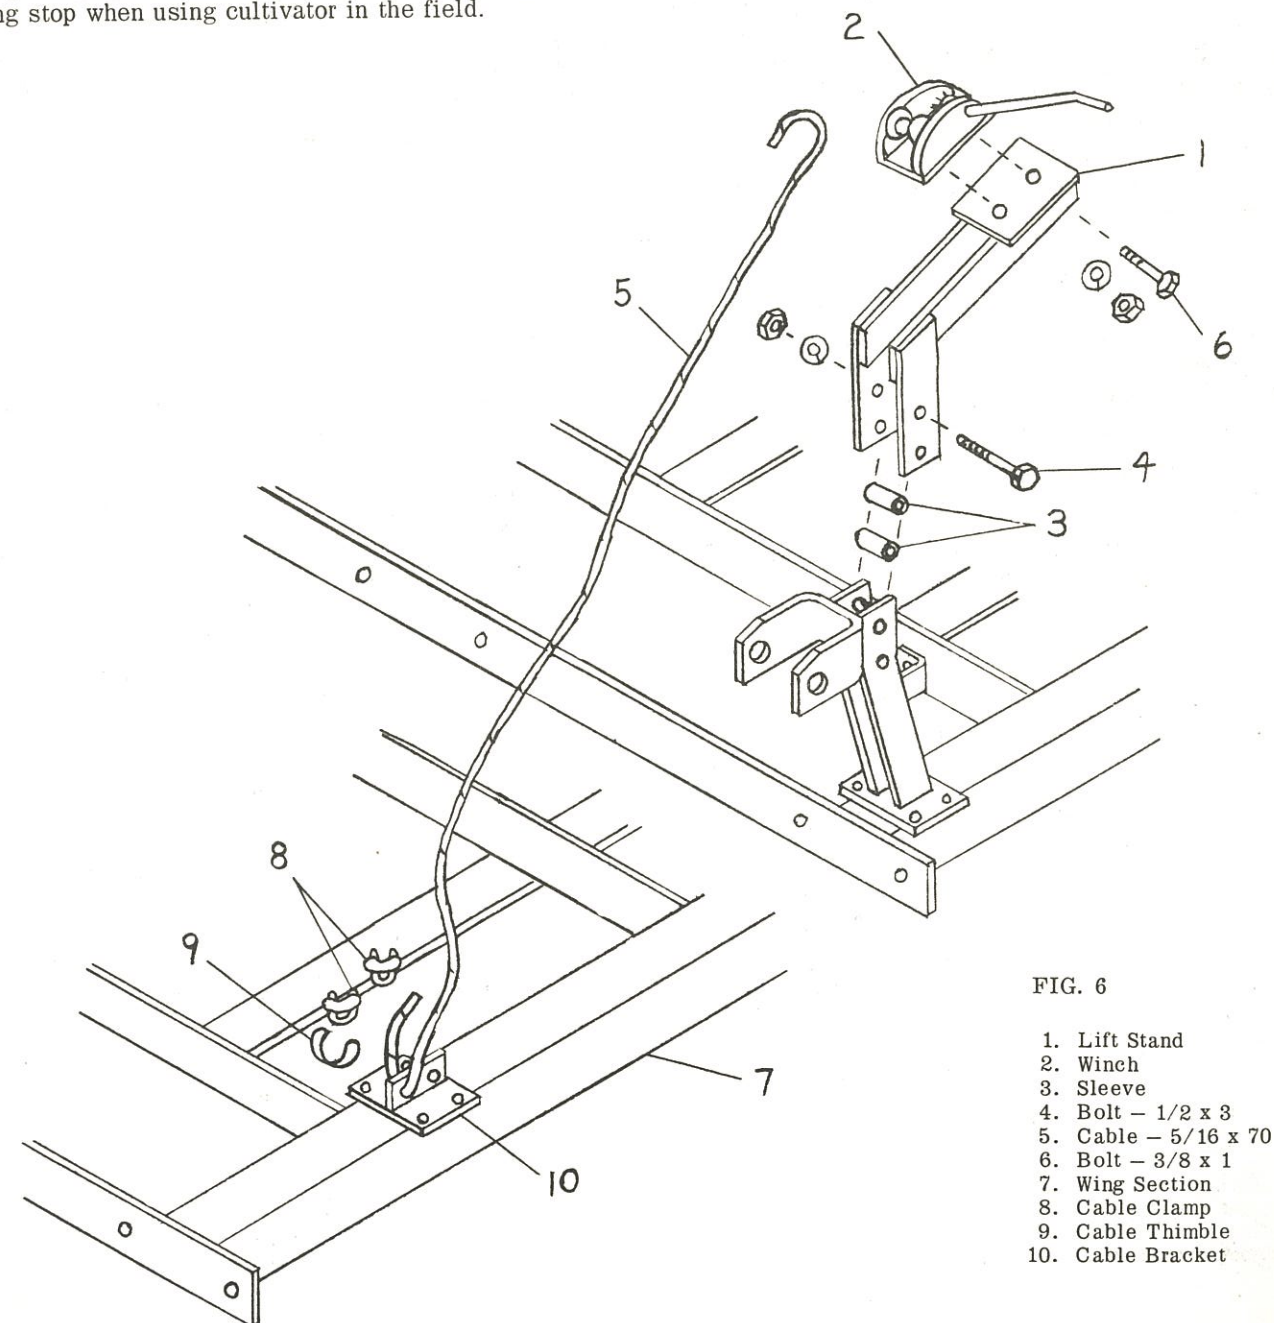

FIG. 6
Begin by inserting two (2) sleeves between top two holes of wing stop bracket. Next place a lift stand over wing stop and secure with two (2) 1/2" x 3" bolts, lockwashers and nuts. The winch is bolted to lift stand with two (2) 3/8" x 1" bolts, lockwashers and nuts as shown in Fig. 6. Next insert a cable thimble into outer hole of cable bracket, feed cable through hole and secure with two (2) clamps. Attach opposite end of cable to winch.